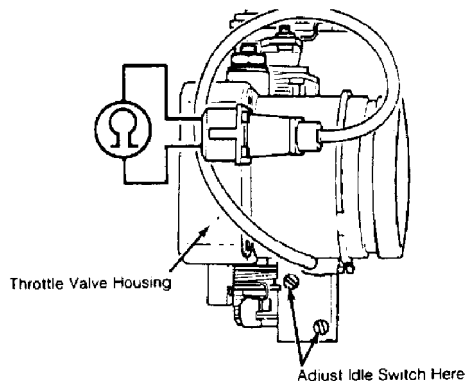

Fig. 14: Idle Switch Adjustment
3) If reading is incorrect, remove throttle valve housing. Loosen idle switch mounting screws and adjust switch position. See Fig. 14. Switch must close (continuity) before throttle control reaches idle stop position.